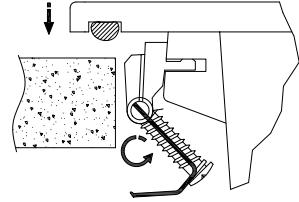

Fig 2.
8. Unscrew the fixing clip screws fully then rotate the hook section of the fixing clips away from the sink edge (fig. 2), this will clear the clips of the cut out when fitting the sink.